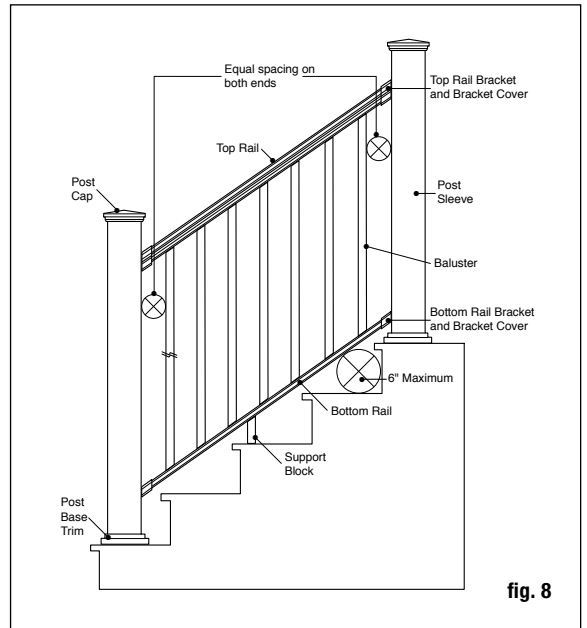

fig. 8
**Step 6** Measure the distance between installed post sleeves to determine the length of the top and bottom rails. Place the bottom rail on the stair treads next to the posts and adjust so the distance between the first baluster hole and post is greater than 2-3/4" minimum and equal on both ends (fig. 8). Mark the rail to the proper length and angle. Cut the bottom rail. Cut the top rail to the same length and angle (fig. 9).
**Step 7** Place the proper rail bracket covers and stair brackets on the ends of the bottom rail. Pay particular attention to the brackets being used as they differ based on top/bottom rail and up/down angle. Determine the position of the support block and attach to the bottom rail. Prop the bottom rail between the posts on the stair treads (fig. 9). You may need to place equal shims between two stair tread noses to elevate the bottom rail. Check for requirements in your area. Typically, a 6" sphere may not be allowed to pass through the triangle formed by the bottom rail, tread and riser (fig. 8). Center the stair bracket on the post. Using the stair bracket as a guide, mark the screw positions on the post sleeve and rail on both ends. Pre-drill 1/8" pilot holes through the post sleeve and rail. Attach the stair bracket to the post sleeve using the #8-15 x 2" - #2 square drive flat head screws and then attach stair bracket to rail using #8-16 x 3/4" - #1 square drive wafer head self-drilling screws.